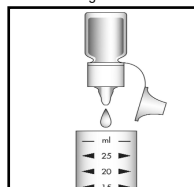

Figure 2
2. Add 10 drops of S-1010 Acidifier Solution (fig 2). Stir to mix the contents of the cup.